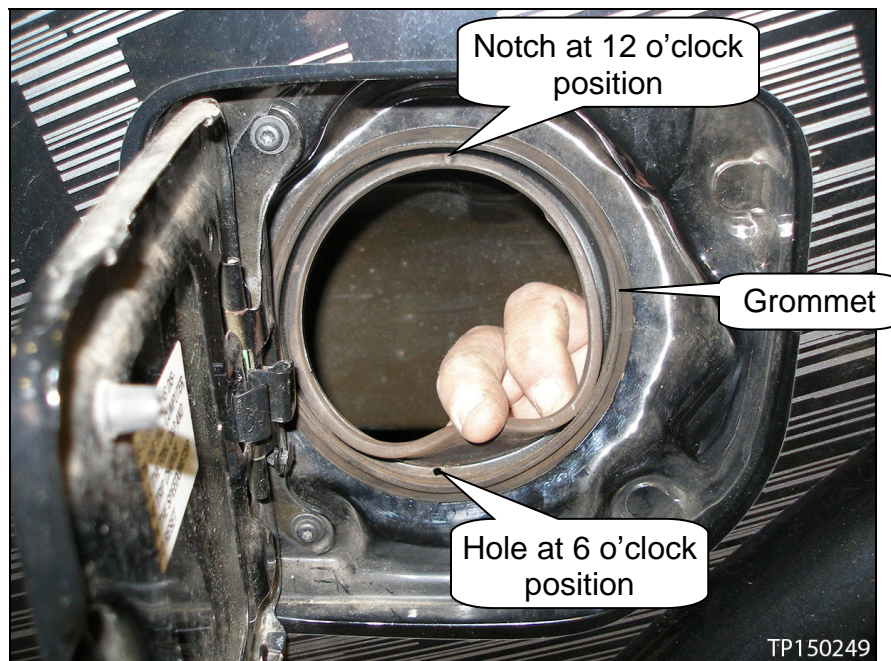

Figure 3
- Make sure the grommet is positioned, as shown in Figure 3.